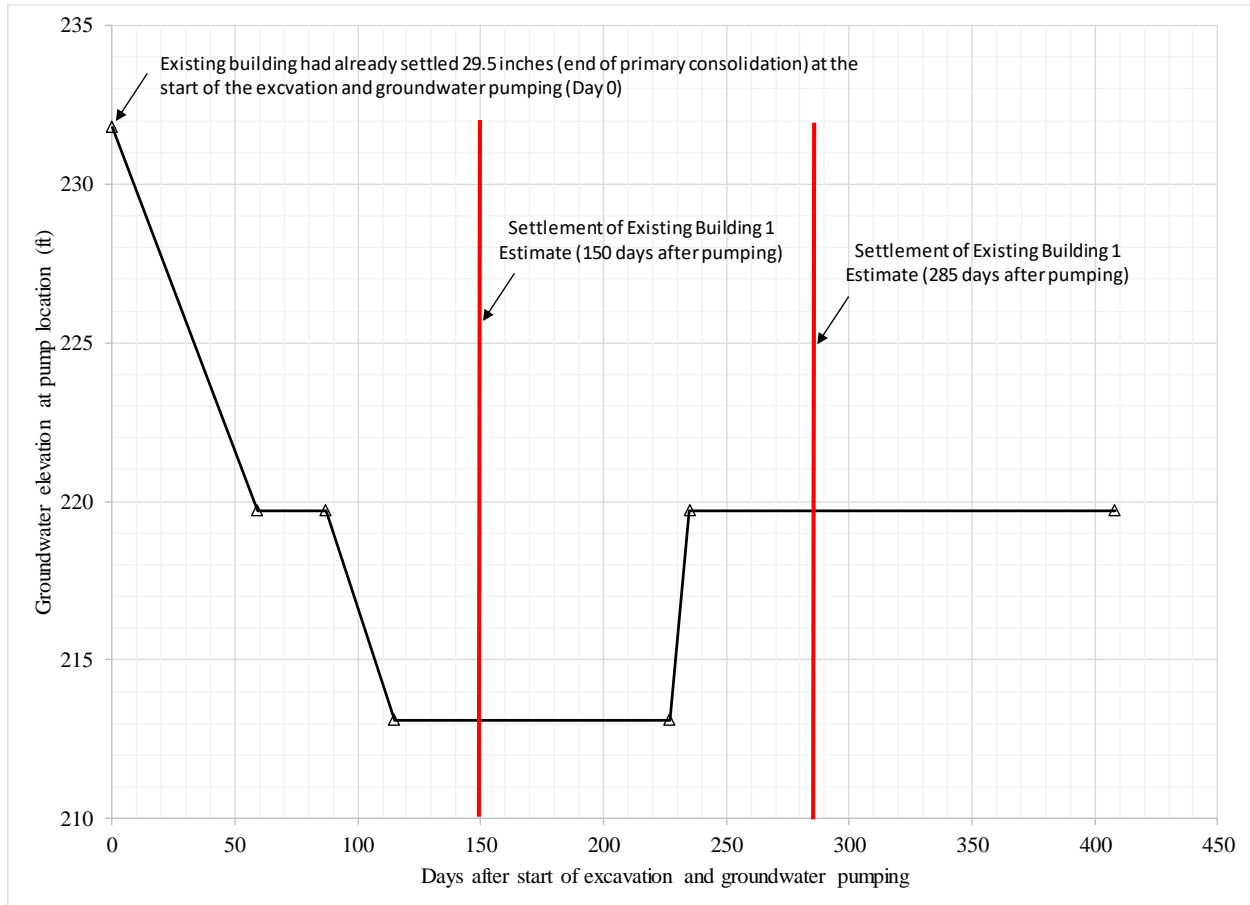

Figure 5. Dewatering timeline at the start of excavation for the new building
4. For a period of time, the pumping lowered the groundwater table at the excavation a few feet below the excavation as shown in Table 4 and Figure 5.